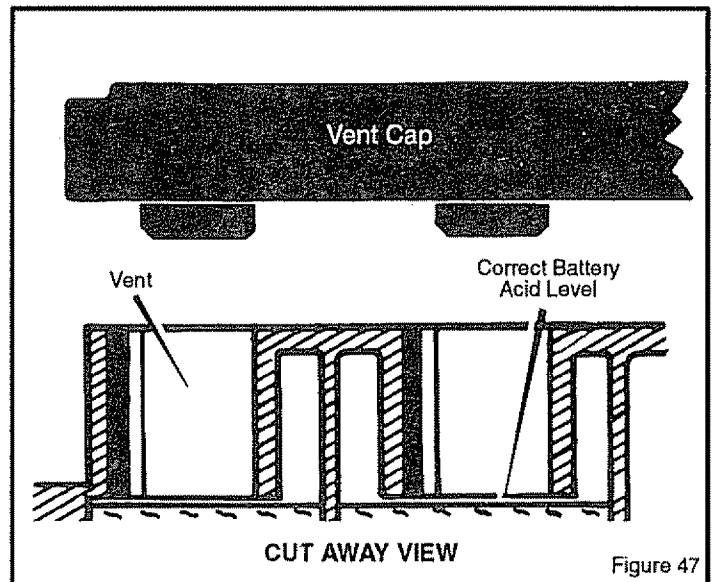

Figure 47
1. Check the level of the battery acid. The **battery** will be damaged if the battery acid is not kept at the correct level. The battery acid must touch the bottom of the **vent** (Figure 47). If the battery acid has fallen below the correct level, add water to the correct level. Do not add battery acid to a charged **battery** or the result can be an explosion.